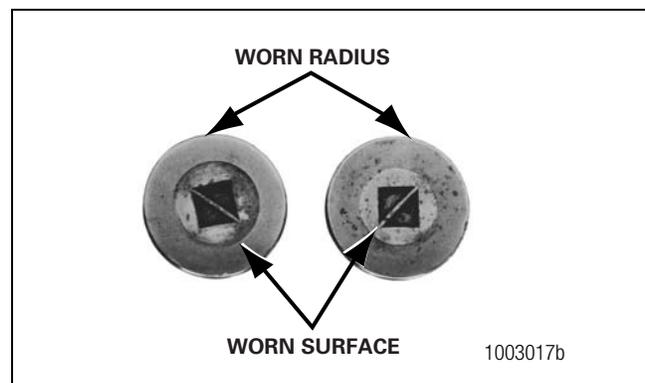

Figure 4.1
- The center of the large diameter end of the rollers is worn level or below the outer surface. Figure 4.1.
- The radius at the large diameter end of the rollers is worn to a sharp edge. Figure 4.1.